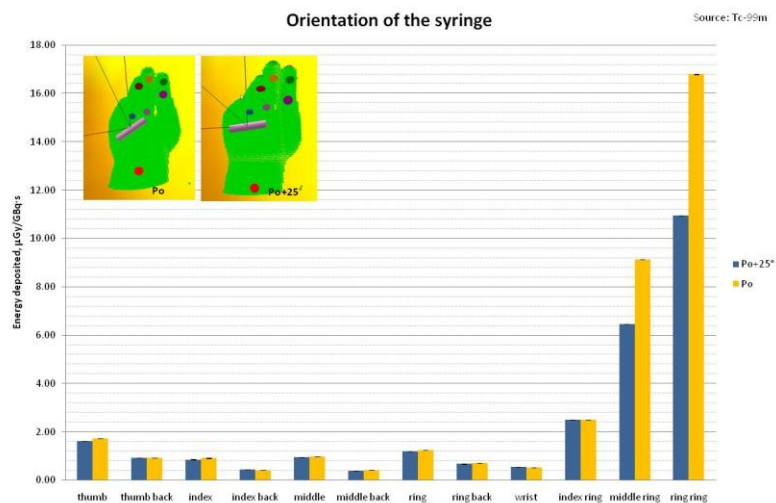

Figure 4: Example of scenario I2N. Test 2. Source Tc99m
- Do one histogram for each radionuclide, similar than for Test 1. See example in Figure 4.